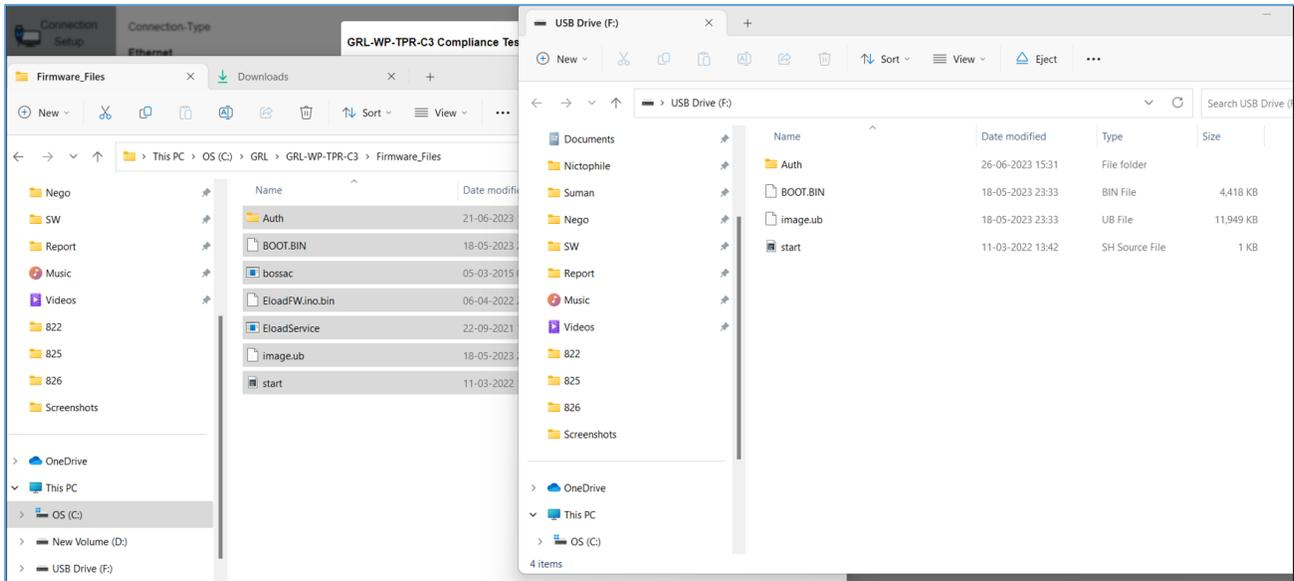

FIGURE 7.11: COPY GRL-C3 FIRMWARE FILES INTO REMOVABLE USB DRIVE
- Copy the files from “C:\GRL\GRL-WP-TPR-C3\Firmware_Files” into the newly detected removable USB drive. Refer to Figure 7.11 below.